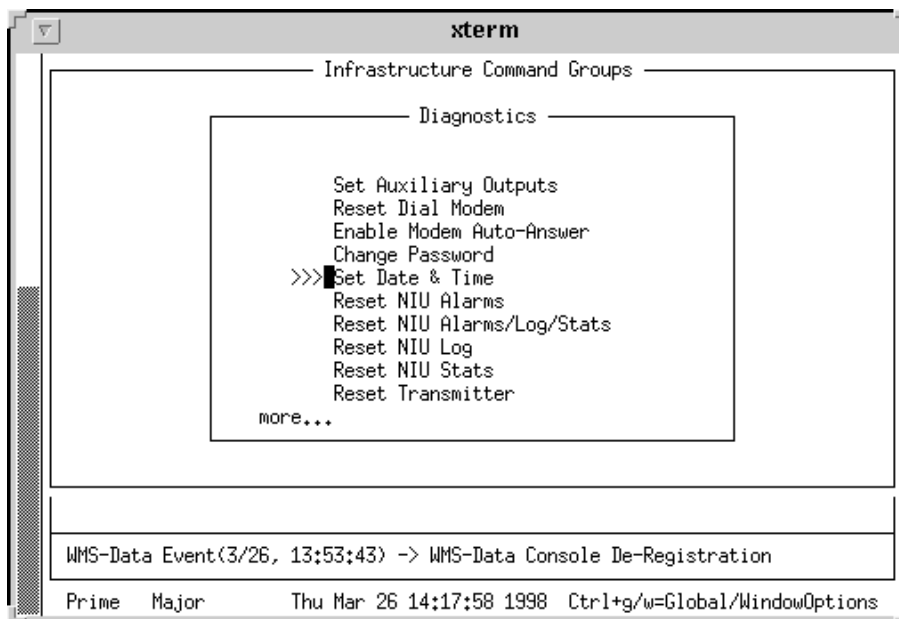

Figure 5-10: Diagnostics Screen—Set Date and Time
1. From the Diagnostic menu, use the <tab> to position the cursor to the left of the listing Set Date & Time and press: <Return> (see Figure 5-10).